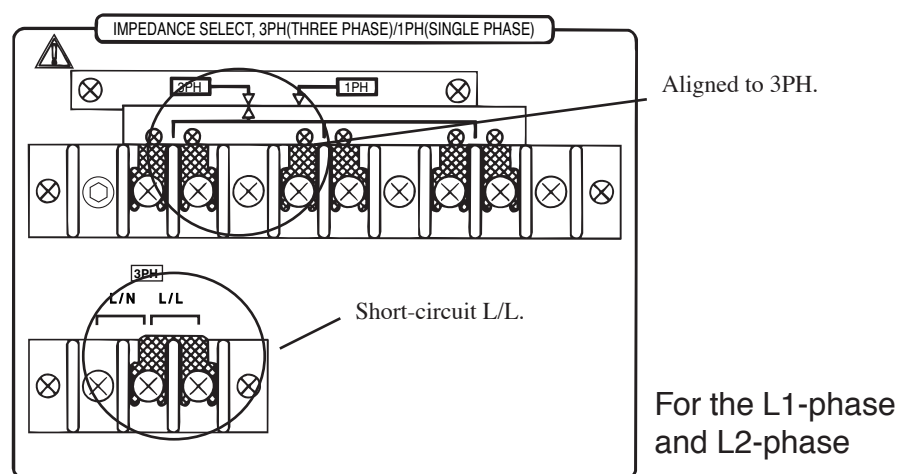
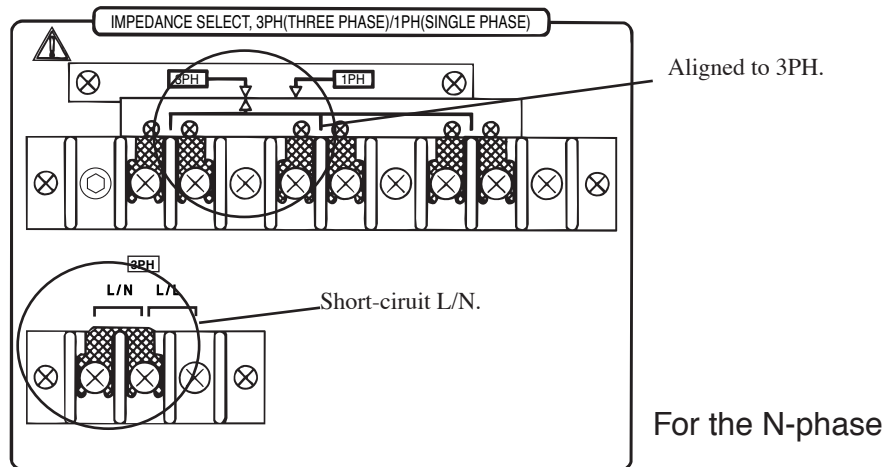

Fig. 5-4 L1-phase and L2-phase Circuit Settings
Fig. 5-5 N-phase Circuit Settings
3. Make sure that terminal board connections the L1/L2-phase and N-phase unit is made as shown in Fig. 5-4 and Fig. 5-5, respectively.